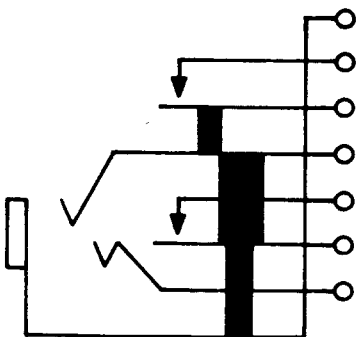

Fig. 10—324C Jack
2.10 **324C:** This single-mounted jack (Fig. 10) is used with the 310 or similar-type plugs. The 324C jack is heavily insulated.